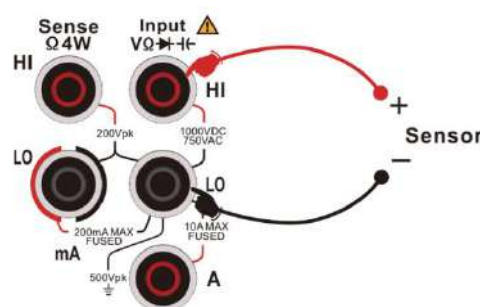

Figure 2-28 Connection of temperature measurement
- 2) Connect the test leads to the sensor as Figure 2-28. Please be aware of the polarity of thermocouple probe and don't reverse connect.